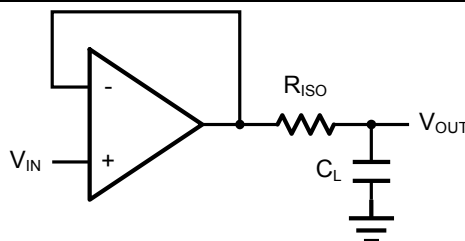
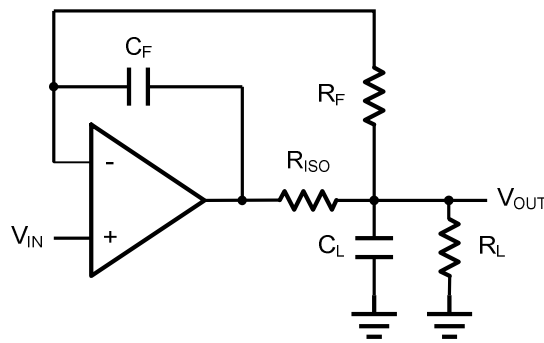

Figure 2. Indirectly Driving a Capacitive Load Using Isolation Resistor
Figure 3. Indirectly Driving a Capacitive Load with DC Accuracy
The HM804X family is optimized for bandwidth and speed, not for driving capacitive loads. Output capacitance will create a pole in the amplifier's feedback path, leading to excessive peaking and potential oscillation. If dealing with load capacitance is a requirement of the application, the two strategies to consider are (1) using a small resistor in series with the amplifier's output and the load capacitance and (2) reducing the bandwidth of the amplifier's feedback loop by increasing the overall noise gain. Figure 2. shows a unity gain follower using the series resistor strategy. The resistor isolates the output from the capacitance and, more importantly, creates a zero in the feedback path that compensates for the pole created by the output capacitance.
The circuit in Figure 3 is an improvement to the one in Figure 2.  $R_F$  provides the DC accuracy by feed-forward the  $V_{IN}$  to  $R_L$ .  $C_F$  and  $R_{ISO}$  serve to counteract the loss of phase margin by feeding the high frequency component of the output signal back to the amplifier's inverting input, thereby preserving the phase margin in the overall feedback loop. Capacitive drive can be increased by increasing the value of  $C_F$ . This in turn will slow down the pulse response.